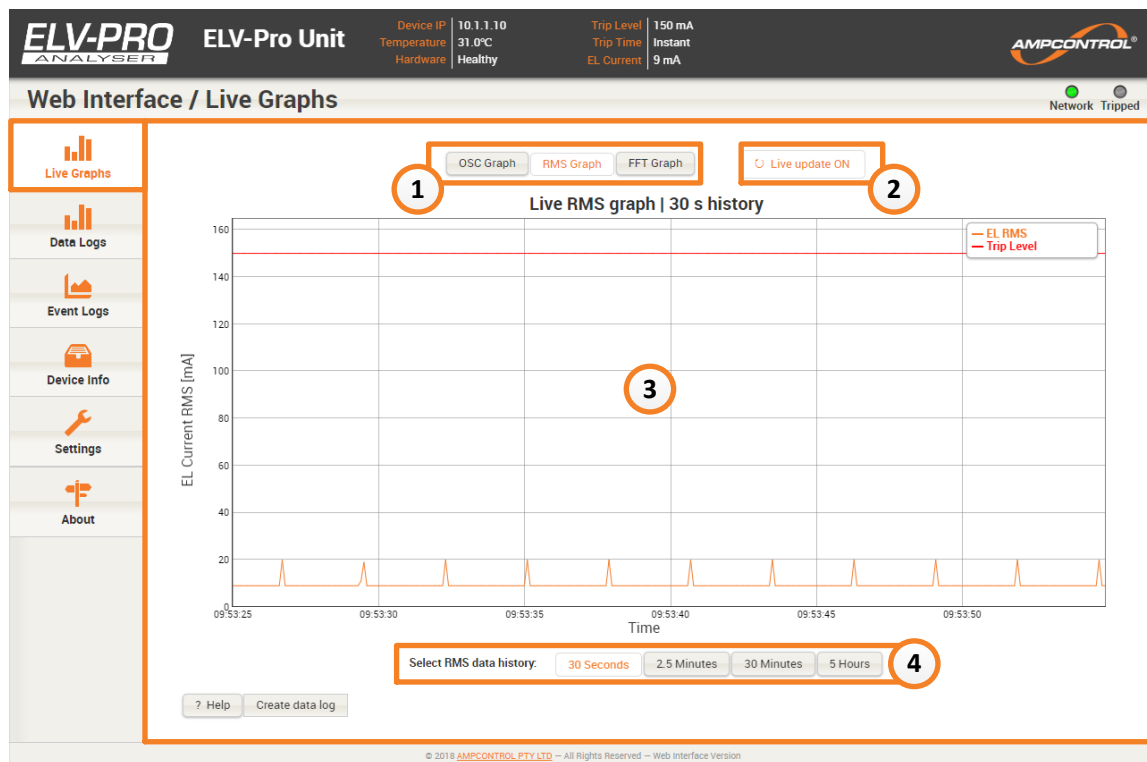

Figure 6-3: ELV-PRO Web Interface - Live Graphs (RMS)
Figure 6-3 shows the ELV-PRO Live Graphs interface. By default, the Live Graphs tab displays the RMS graph of the past 30 seconds. The graphs in this tab are refreshed every second; provided the Live Update button (Item 2 of Figure 6-3) is activated (default is ON). With the Live Update button disabled the plot is static which can allow for better inspection of the data shown using the interactive features of the plots (described in Section 6.2.8). The buttons above the graphs (item 1 of Figure 6-3) allow the graph to alternate between the three possible options. These are:
- RMS graph: In this view, Root Mean Square (RMS) values of the measured current are shown. The user is able to select the time interval on the graph by selecting from the buttons below the graph. Figure 6-3.